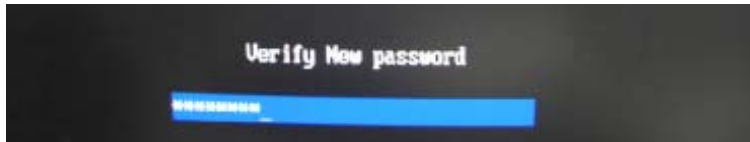

Figure 6-4: Verify New Password
Step 7: Verify the new password by entering again (Figure 6-4).